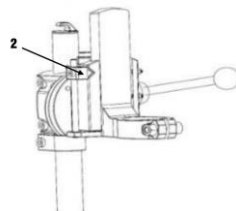

Fig. 6
2. Adjust the height of the point clamp (#2) to control the path of the drill (Fig. 6).